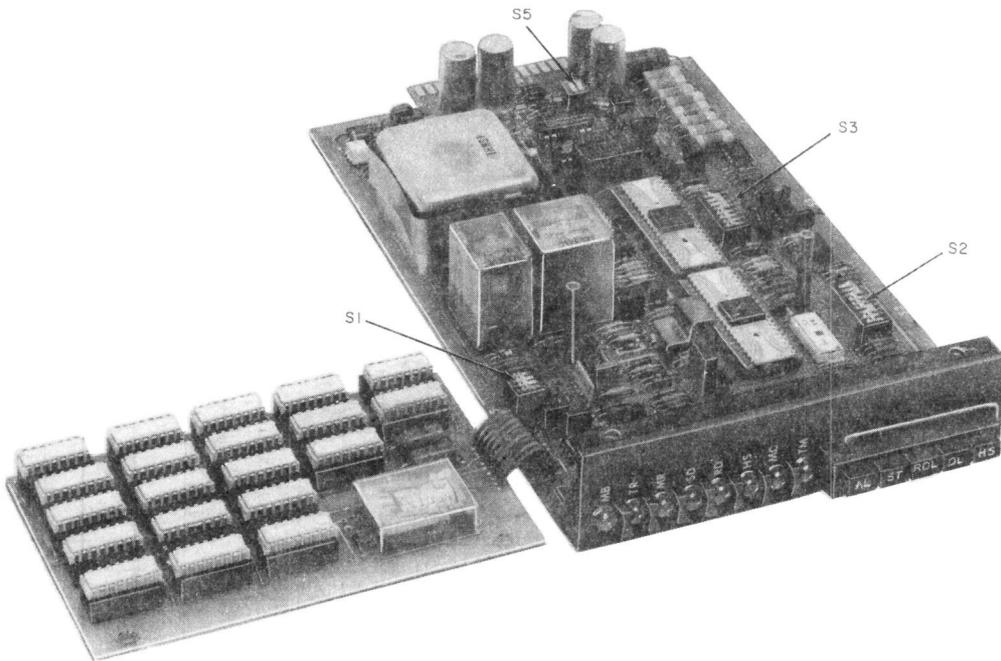

Fig. 1—Data Set Unfolded for Location of Option Switches
**Note:** Figure 1 shows the data set unfolded for locating option switches. Change options without unfolding CMI.